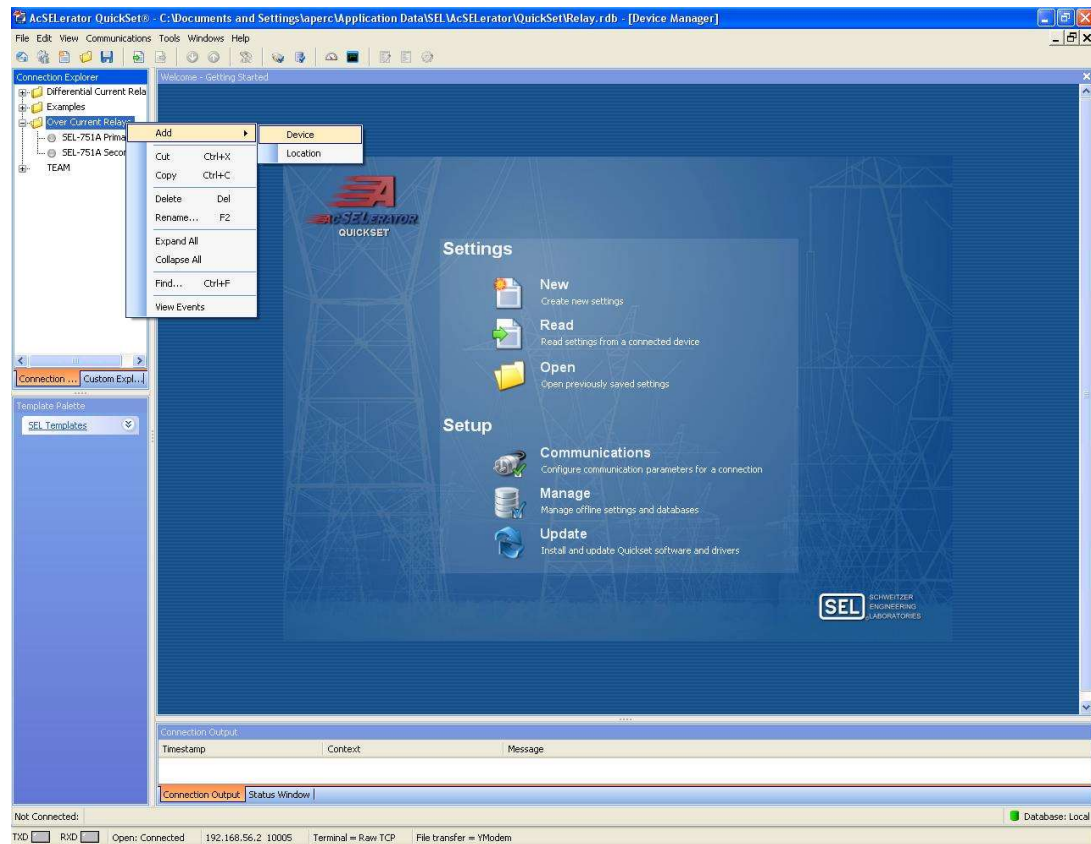
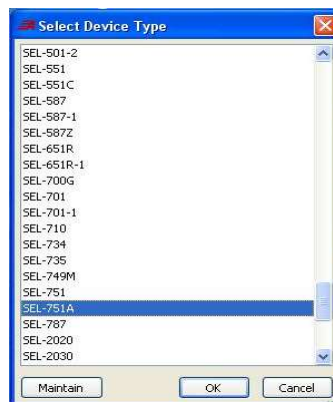

Figure 4.28 Adding a new device in the database
Figure 4.29 Selecting Device Type
- 2) When the database is opened the folders defined in the database are shown on the left pane under Connection Explorer. Since a SEL-751A Feeder Protection Relay is being added, the configuration is added in Overcurrent Relay folder. This is done by right clicking on the folder name and then selecting Add and then Device as shown in Figure 4.28. A window, shown in figure 4.29, will appear. Select SEL-751A.